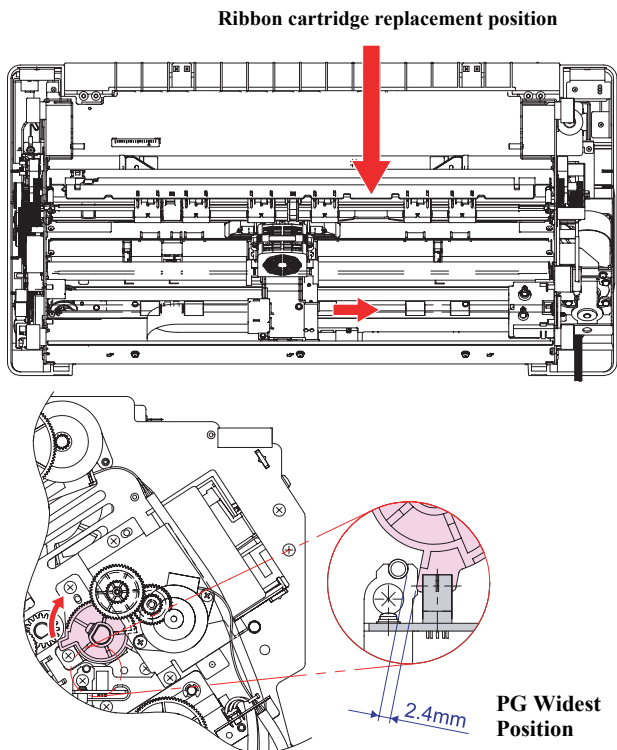

Figure 5-18. Mechanical Position Check
- The CARRIER UNIT is at the Ribbon cartridge replacement position. (See Figure 5-18).